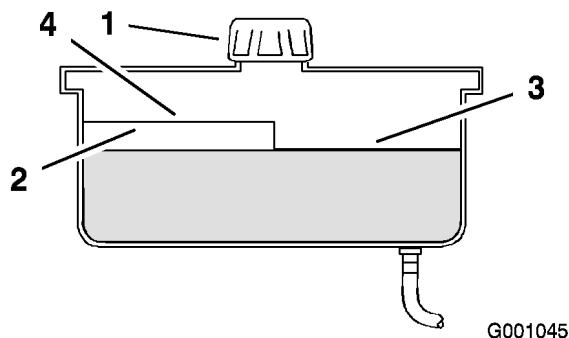

Figure 66
- Clean the area around filler neck of hydraulic tank (Figure 66).
- Remove the cap from the filler neck. Look inside to check if there is fluid in the reservoir (Figure 66).
Note: The fluid level should be to the top of the hot level of the baffle, when the fluid is hot (Figure 66).